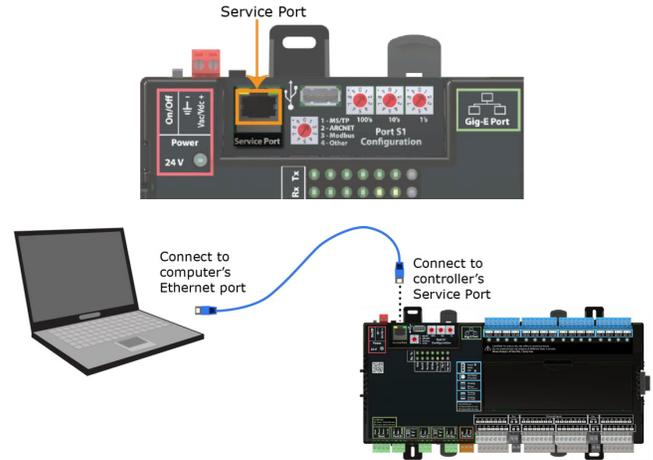

Fig. 11 – Service Port Connection
1. Connect an ethernet cable from a computer to the controller’s Service Port (see Fig. 11).